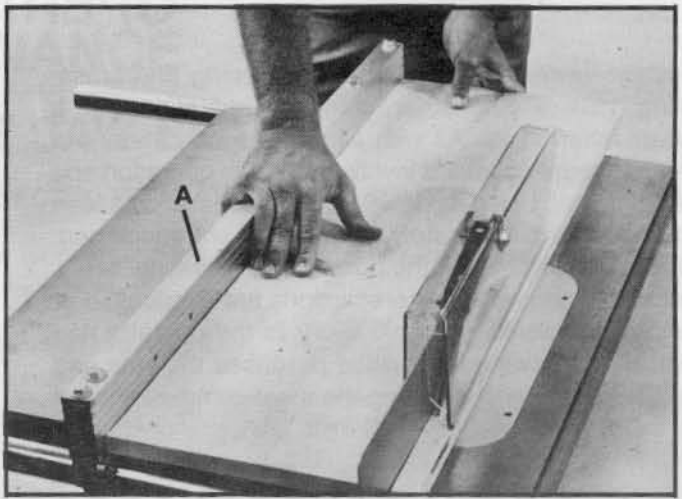

Fig. 61
Ripping is the operation of making a lengthwise cut through a board, as shown in Fig. 61, and the rip fence (A) is used to position and guide the work. One edge of the work rides against the rip fence while the flat side of the board rests on the table. Since the work is pushed along the fence, it must have a straight edge and make solid contact with the table. The saw guard must be used. The guard has anti-kickback fingers to prevent kickback and a splitter to prevent the saw kerf from closing behind the blade.
Start the motor and advance the work holding it down and against the fence. Never stand in the line of the saw cut when ripping. Hold the work with both hands and push it along the fence and into the saw blade as shown in Fig. 61. The work can then be fed through the saw blade with one or two hands. After the work is beyond the saw blade and anti-kickback fingers, the hand is removed from the work. When this is done the work will either stay on the table, tilt up slightly and be caught by the rear end of the guard or slide off the table to the floor. Alternately, the feed can continue to the end of the table, after which the work is lifted and brought back along the outside edge of the fence. The cut-off stock remains on the table and is not touched with the hands until the saw blade is stopped, unless it is a large piece allowing safe removal. When ripping boards longer than three feet, it is recommended that a work support be used at the rear of the saw to keep the workpiece from falling off the saw table.